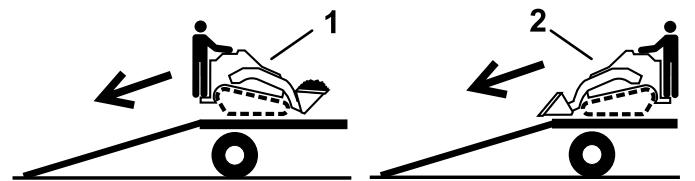

Figure 22
2. Unload the machine from the trailer with the heavy end up the ramp, carrying loads low (Figure 22).